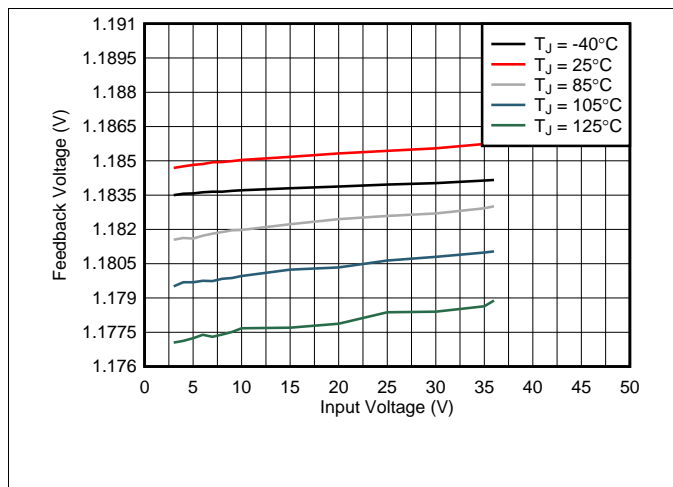

Figure 1. Feedback Voltage vs Input Voltage
- Updated Figure 1 to show correct device performance 7